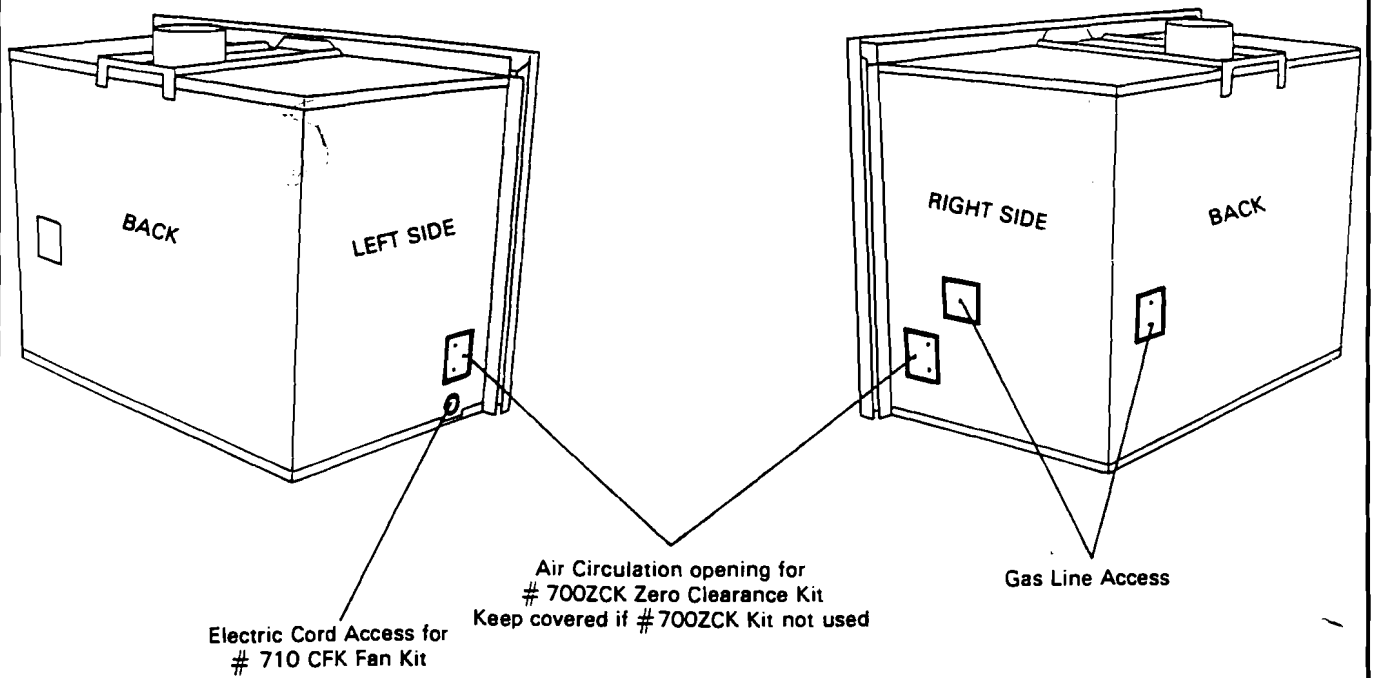

Fig. 4 OPENINGS IN CASE
The supply gas feed line should enter the appliance through one of the openings in the appliance case. Openings are provided at the back and right side (see fig.4). See section 4 for gas supply connection details.
Openings for the gas supply line entry are provided at the back and right side (see fig. 4). The appliance is supplied with a plate covering the back opening. The opening at the right side for the supply line is uncovered as supplied. If the supply line is to enter through the back, remove the plate and refit it over the right side opening.
**Note** that the openings at the right and left sides of the case which are supplied covered with metal plates and the round opening at the left side of the case are for purposes other than supply line entry (see fig. 4). Do not run pipes through any of these openings.